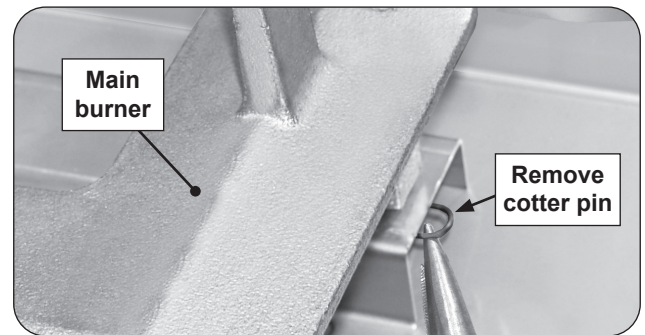

Fig. 45-2 Remove cotter pin
2. Locate and remove the cotter pin from the left or right rear burner anchoring peg by pulling it straight out of the cotter pin hole using fingers or needle-nose pliers. See Fig. 45-2.